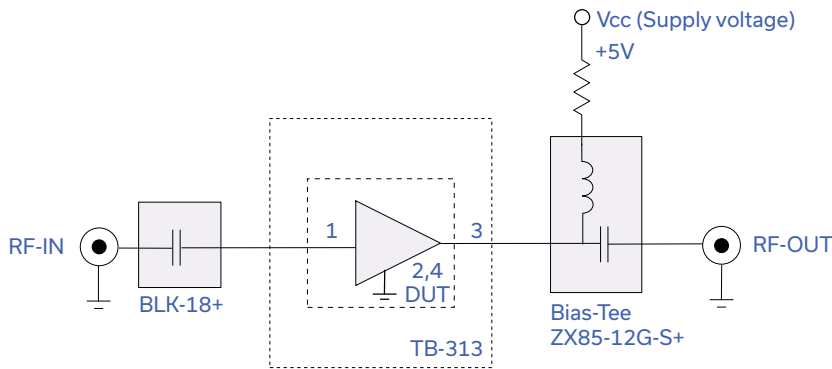

Fig 1. Block Diagram of Test Circuit used for characterization. (DUT soldered on Mini-Circuits Test Board TB-313)
(1) Measured on Mini-Circuits test board TB-313. See Characterization Test Circuit (Fig. 1)
(2) Guaranteed specification DC*-7 GHz. *Low frequency cut off determined by external coupling capacitors and RF Choke (RFC)